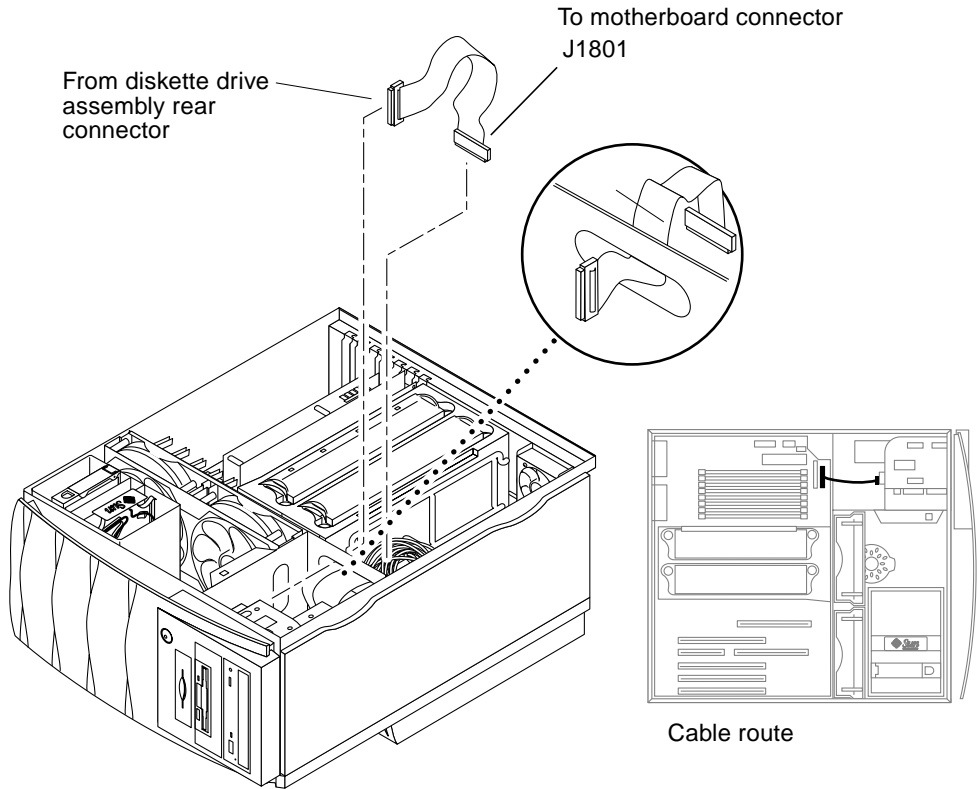

FIGURE 6-8 Removing and Replacing the Diskette Drive Cable Assembly
3. **Disconnect the diskette drive cable assembly as follows (FIGURE 6-8):**
1. **Position the diskette drive cable assembly in the chassis (FIGURE 6-8).**
2. **Connect the diskette drive cable assembly as follows (FIGURE 6-8):**